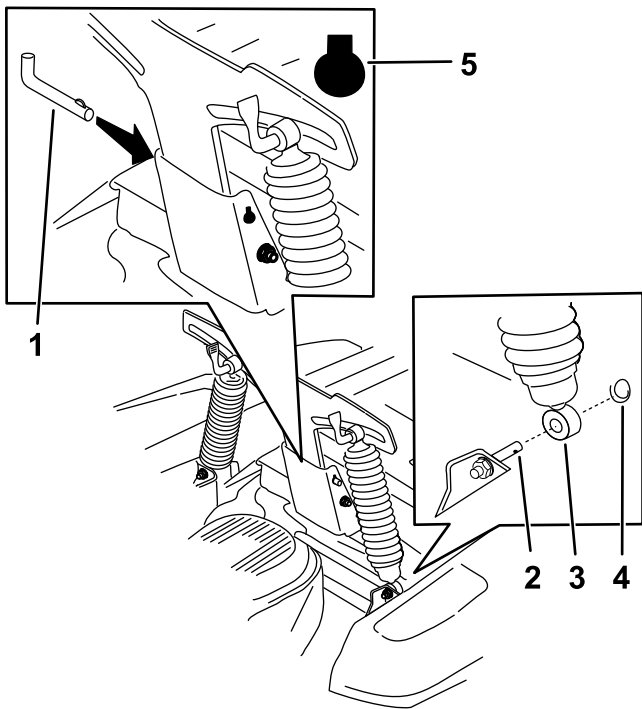

Figure 3
3. Place the ends of the springs on the posts (Figure 3).
4. Secure the springs to the posts with the 2 round clips (Figure 3).
5. Install the pin into the back by using the indexed key slot (Figure 3).